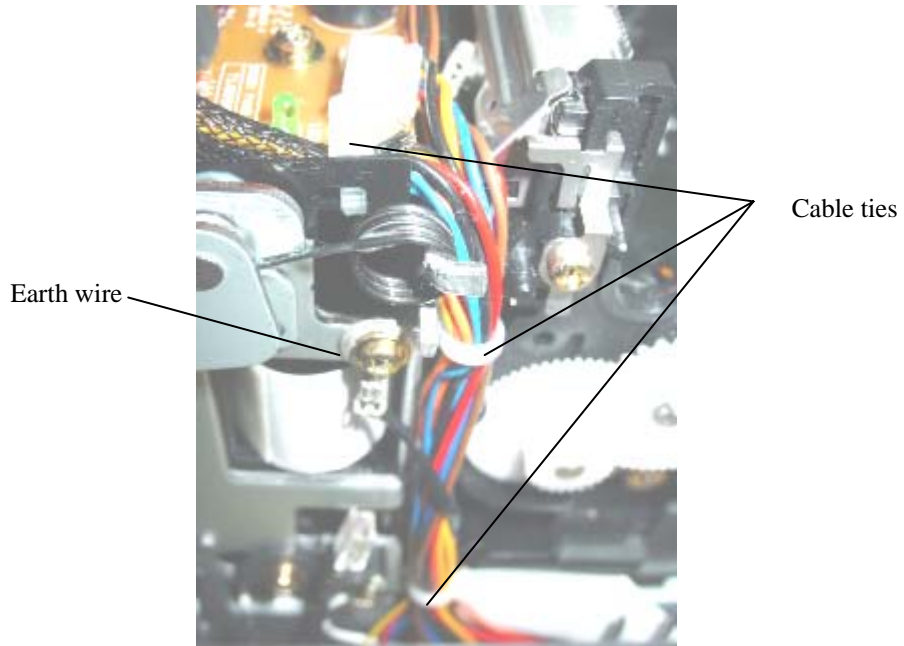

Figure 12 - Removing cable ties and earth wire
6. Remove three cable ties along the harness of Flip Mechanism and unscrew the black Earth wire (Figure 12)